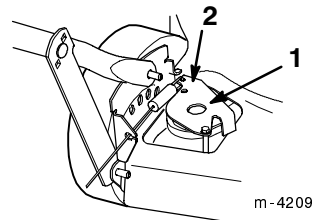

Figure 27
- Push the drive bracket down until it contacts the lawn mower, then hold it in place (Fig. 27).